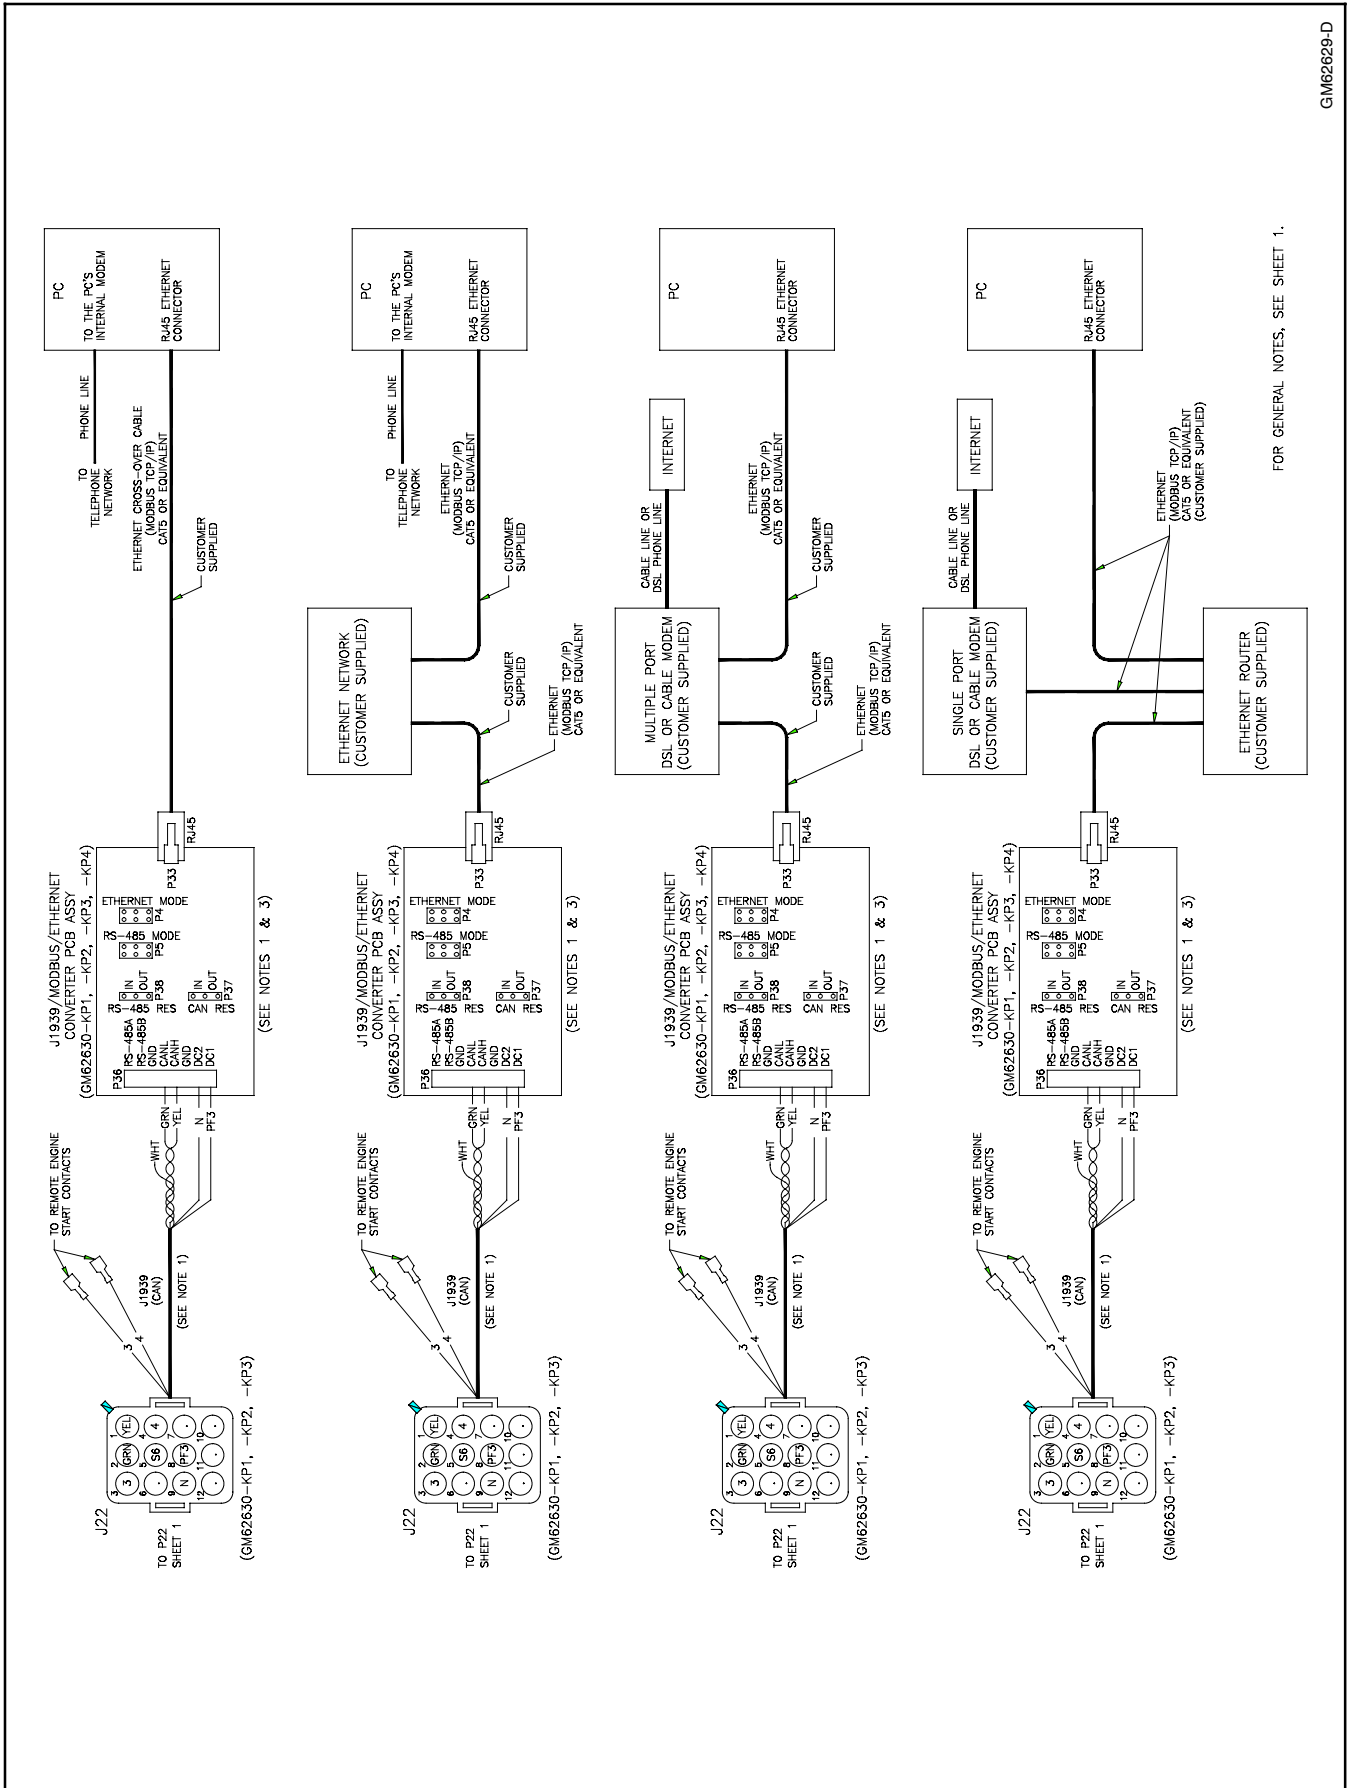

Figure 22 Network Connection Diagram GM62629, Sheet 2
4. Connect harness GM62627 to P36 on the bridge. See Figure 22.
1. Connect the network bridge to the customer's Ethernet router. The router must be connected to the cable modem or DSL modem used for Internet access (not provided). See Figure 22.